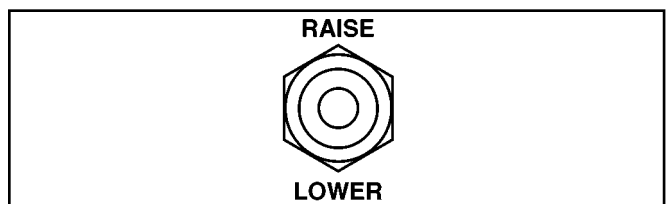

Figure 1-9 Raise/Lower Switch
- **Raise/Lower Switch.** (Refer to Figure 1-9) Allows operators to control the height of the blade (This switch functions no matter what the position of the Auto/Manual Switch).